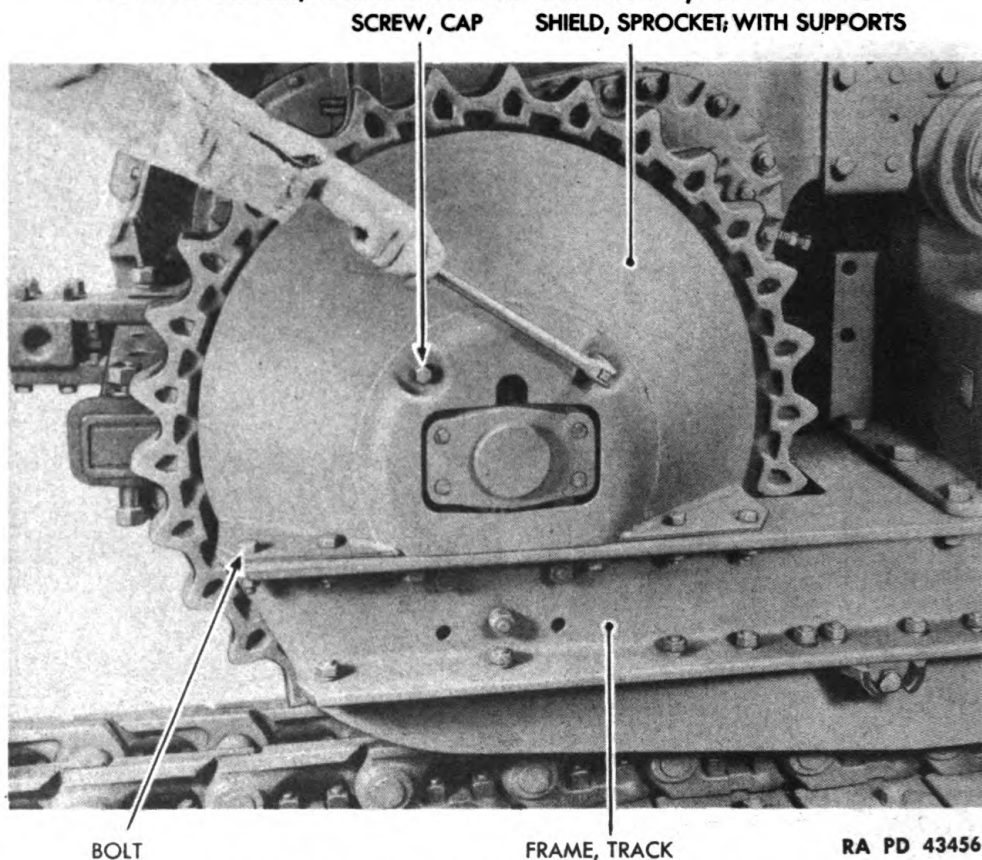

Figure 182 — Sprocket Shield with Supports Removal
(4) REMOVE SPROCKET SHIELD WITH SUPPORTS (fig. 182).